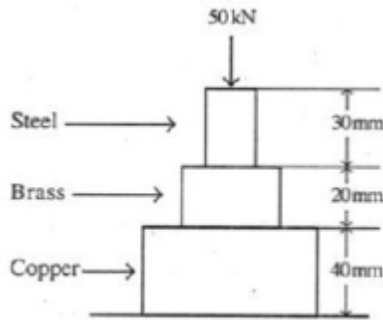

Figure 1
- Q.3 (a) Determine the total compression of a bar made up of three circular cross sections as shown in figure 1 and the diameters being 10 mm, 20mm and 30 mm respectively. Take  $E_s=210$  GPa,  $E_b=105$  GPa and  $E_c=100$  GPa.